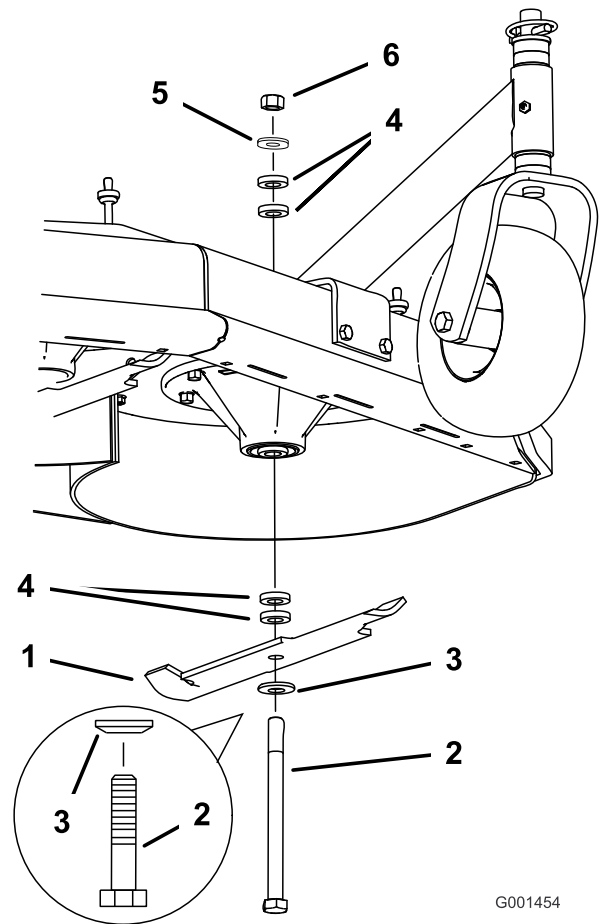

Figure 15
3. Hold the blade bolt and remove the nut (Figure 15).
4. Remove the blade bolt from the spindle and change the spacers as needed (Figure 15).
5. Install the blade bolt, curved washer, and extra spacers, and secure them with a thin washer and a nut (Figure 15).